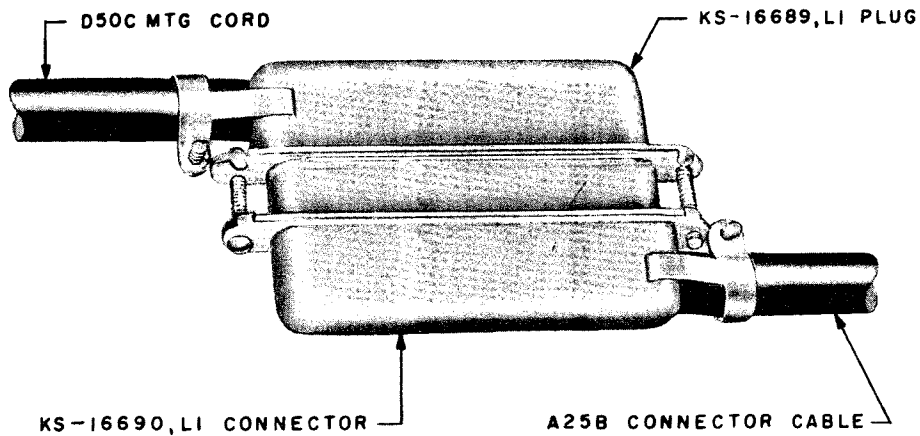

Fig. 7 - D50C Mounting Cord Joined With A25B Connector Cable
2.11 Fig. 7 illustrates how the plug joins with an A25B connector cable.